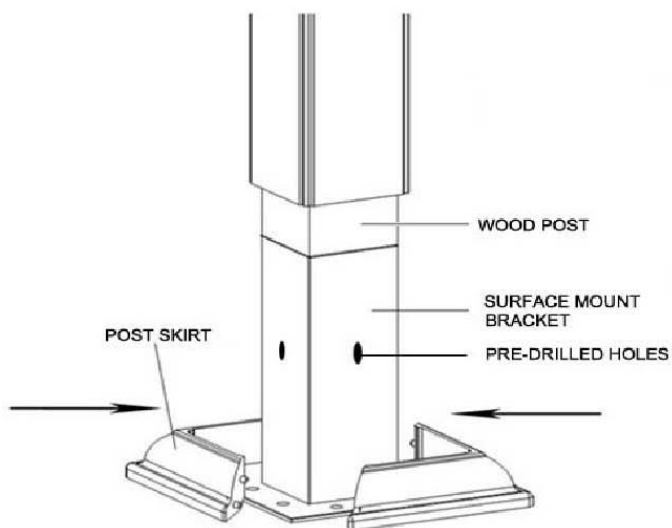

FIGURE 3
2. Drill 4mm holes through the surface mount bracket which should be away from the ledge of post sleeve: fasten the wood post to the bracket with M5\*50mm Screws. Make sure that the post plumb and level. As shown in Figure 3.
4. Fasten the post skirt tightly to the wood post. As shown in Figure 3.